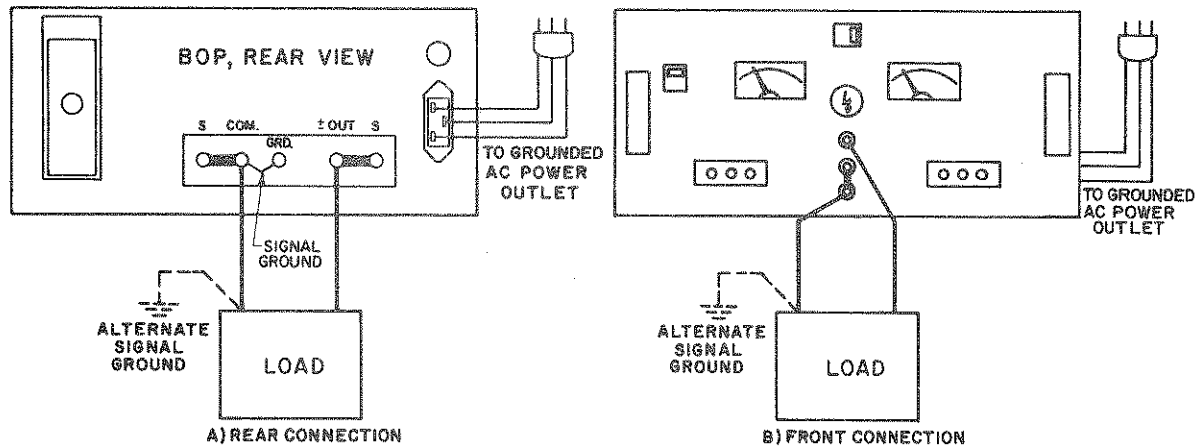

FIG. 3-2 BASIC 2-WIRE LOAD CONNECTION AND GROUNDING CONNECTIONS BETWEEN THE BOP AND THE LOAD.
- B) **LOAD CONNECTION (1).** The basic interconnection between the BOP and the load are shown in FIG. 3-2. The load wire size for the 2-wire connection shown should be as large as practicable to keep the series resistance and inductance low. In addition, the load wire pair should be tightly twisted, to reduce possible "pick-up" from stray magnetic fields. The basic 2-wire connection is useful where the voltage drop in the load wires is of minor consequence, as for example, operation into a constant load or in a constant current operating mode.